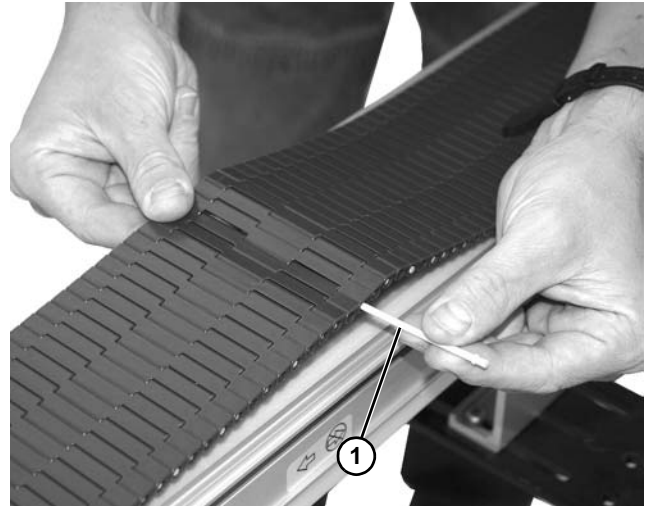

Figure 33
5. Splice the belt together by pushing the plastic rod (Figure 33, item 1) through the side hole on the rod retaining side of belt.